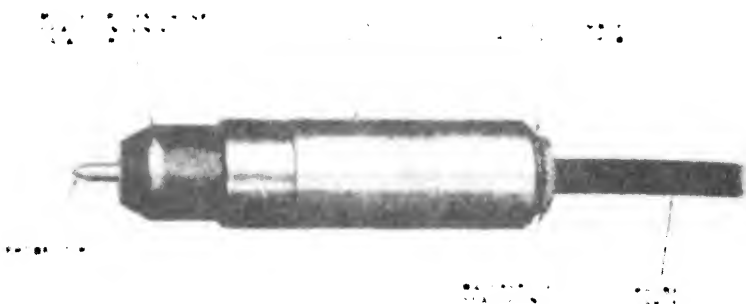

Figure 20. A-c probe.
a. Because of the mechanical difficulties and special techniques needed to replace the tube in the a-c probe (fig. 20) repair of this component is not recommended. Instead, if capacitor C1 is defective, replace the a-c probe shell. If diode V1 or resistor R1 is defective, replace with a spare diode assembly.
(1) With one hand, grasp the diode assembly retaining screw (fig. 20) to prevent it from turning; with the other hand, loosen the waterproof sealing nut.
(2) Loosen the diode assembly retaining screw. The a-c probe shell will separate from the rest of the assembly.
(3) Replace the defective a-c probe shell with a good unit.
(4) Tighten the diode assembly retaining screw.
(5) Tighten the waterproof sealing nut.